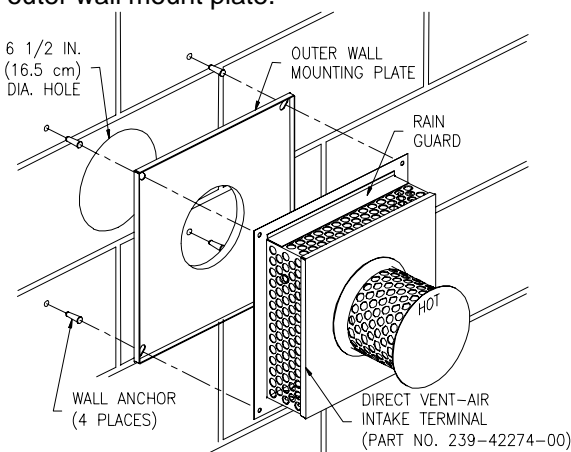

Figure 11
2. From outside the building, position the outer wall mount plate and direct vent-air intake terminal over the center of the opening. Mark the mounting screw hole locations. With a 3/16 inch (4.75 mm) diameter drill bit (not supplied), drill holes for the wall anchors (supplied). Install the wall anchors but **DO NOT** affix the outer wall mount plate and direct vent-air intake terminal to the wall at this time. (See Figure 11). Note: Certain construction of walls may require the use of a different type of wall anchoring means than supplied. **DO NOT** modify the direct vent-air intake terminal or outer wall mount plate.